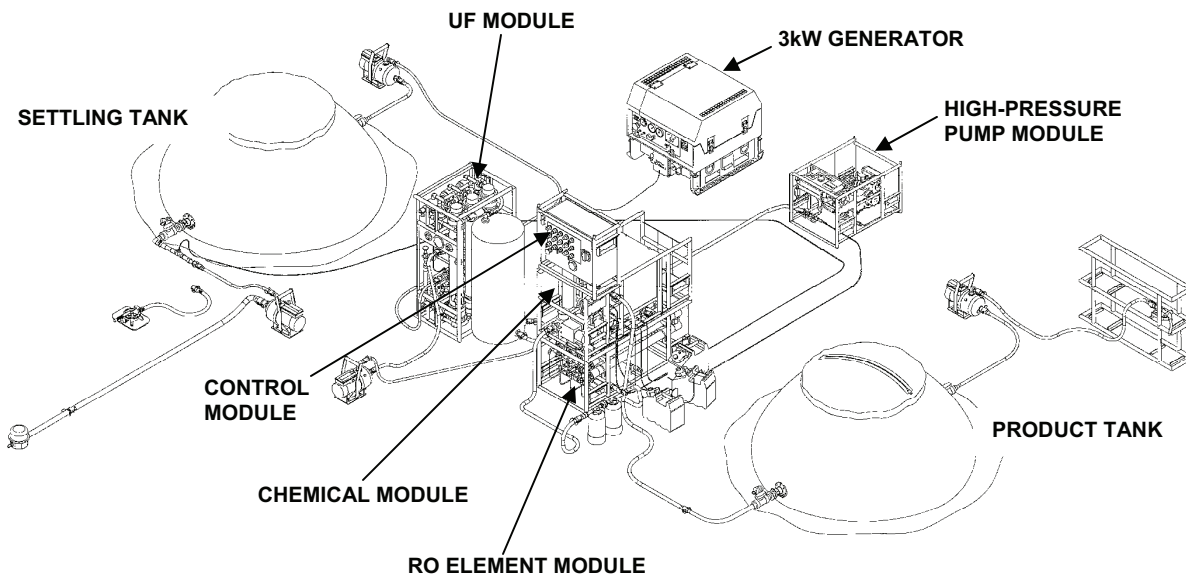

Figure 1. Lightweight Water Purifier Field Setup.
- Uses Reverse Osmosis (RO) and Ultrafiltration (UF) technology.
- Five modules: UF, high-pressure pump, control module, RO, and chemical modules. See Figure 1.